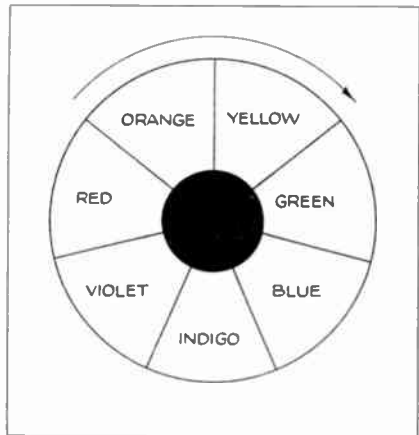

Fig. 53
(A) A sketch of the card to which you refer is given herewith, in Fig. 53. We suggest you use the following water colors or oils to get approximately the right effect, which may be close enough for your work.